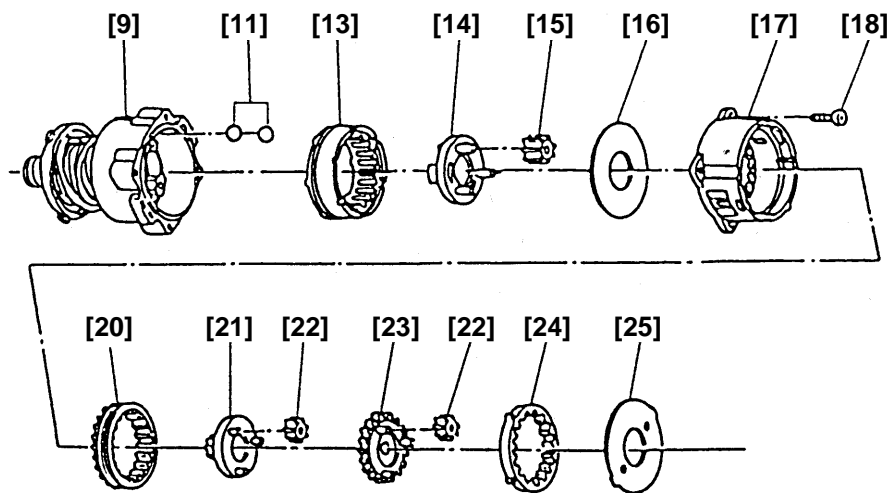

Fig. 12
(b) Install the parts from Steel Ball **[11]** to Washer (B) **[25]** in the order shown in Fig. 12.